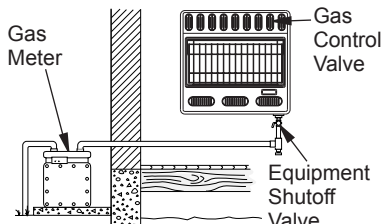
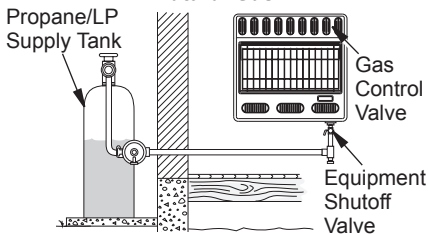

Figure 19 - Checking Gas Joints for Natural Gas
Figure 20 - Checking Gas Joints for Propane/LP Gas
3. Check all joints from gas meter for natural gas (see Figure 19) or propane/LP supply tank for propane/LP gas, to equipment shutoff valve (see Figure 20). Apply a
4. Check all joints from equipment shutoff valve to thermostat gas valve (see Figure 19 or 20). Apply a noncorrosive leak detection fluid to all joints. Bubbles forming show a leak.